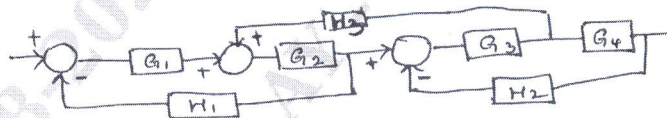

Fig. Q3 (a)
- 3 a. Using block diagram reduction technique find the overall transfer function of the system represented by the block diagram, shown below in Fig. Q3 (a). (06 Marks)